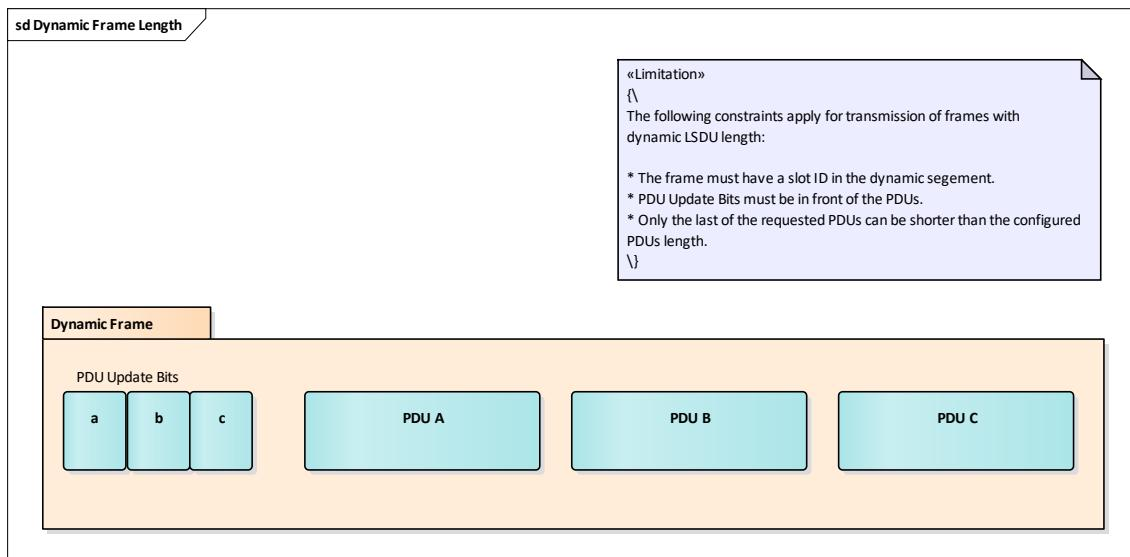

Figure 2-4 Usage scenarios of Dynamic Payload
As mentioned in Figure 2-4 there are some limitations for the usage of dynamic L-SDU length:
- ▶ If there are multiple PDUs within a frame it is not possible to request the transmission of a shortened PDU which has a lower FrlfPduOffset than another PDU which is also requested for transmission. If for example both PDU A and PDU C of Figure 2-4 are transmitted with a lower PDU length than configured the Frlf will use padding to define the frame content between the end of PDU A and the beginning of PDU C. In this case the payload of PDU A will partly be overwritten with the FrlfUnusedBitValue and the receiver of the PDU cannot distinguish between the actual payload and the padded content of the PDU. If only PDU A or PDU C is transmitted this issue does not occur.